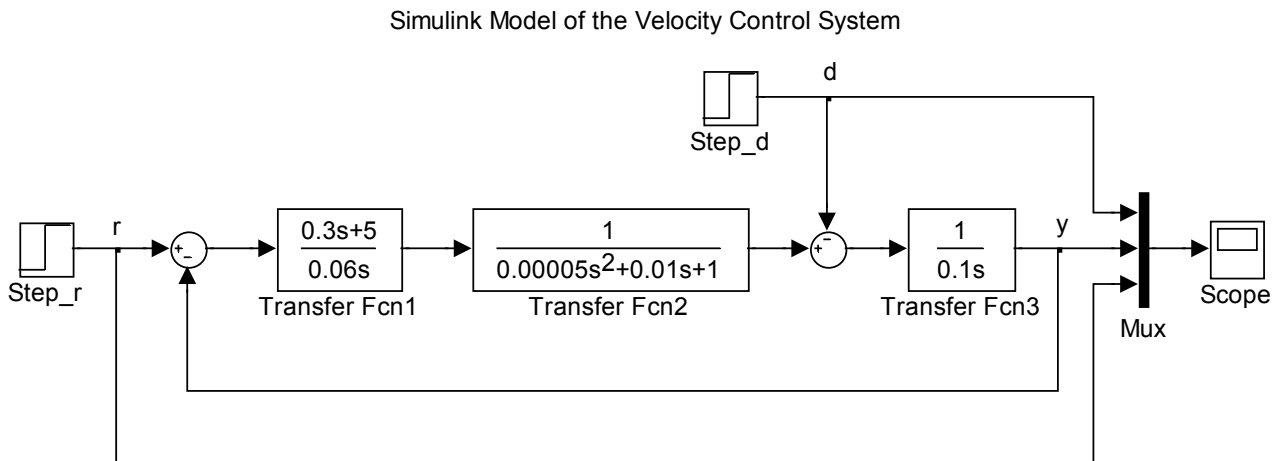

Figure 3 Simulink model of the velocity control system.
- Interconnect the blocks by dragging the cursor from the output of one block to the input of another block. Another wiring technique is to select the source block, then hold down the Ctrl key while left-clicking on the destination block. The Simulink model of the velocity control system is shown in Figure 3.